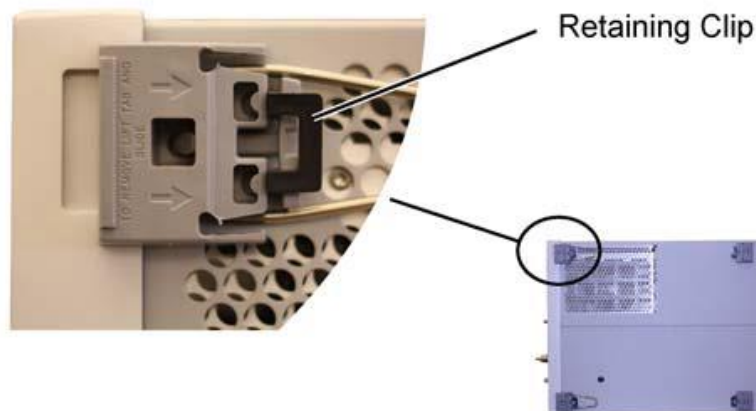

Figure 4. Front Left Foot
5. Locate the front left foot and its retaining clip as identified in Figure 4.